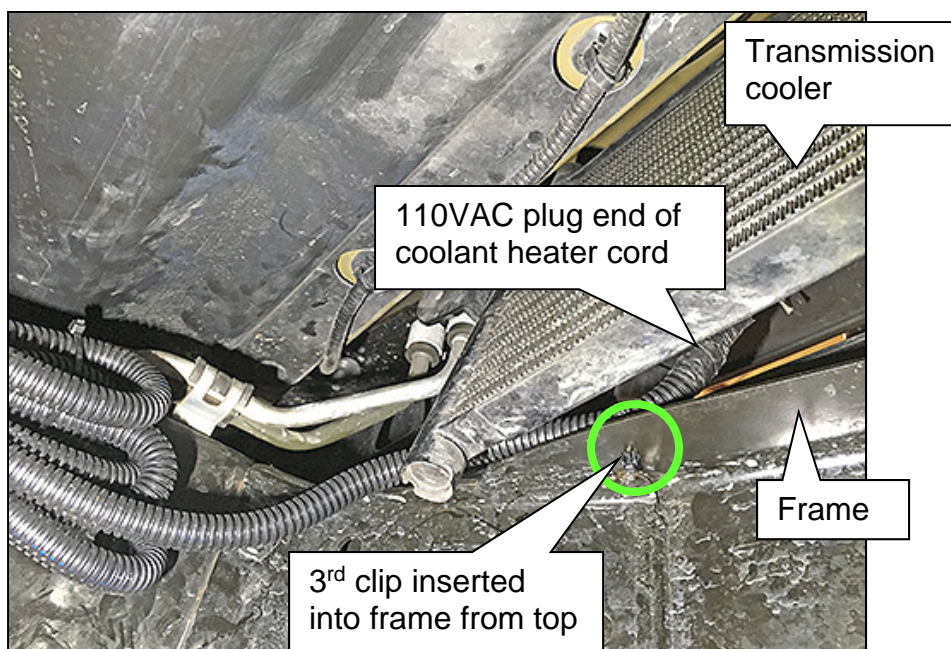

Figure 10
5. Route the 110VAC plug end of the cord over the top of the frame in front of the transmission cooler (see Figure 10).
- Insert from the top into the pre-existing hole as show in Figure 10.